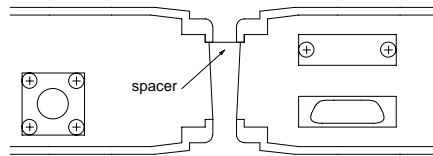

Figure 1 Spacer Fitting
8. Fit the spacer bracket between the two T800 modules at the rear as shown in Figure 1.